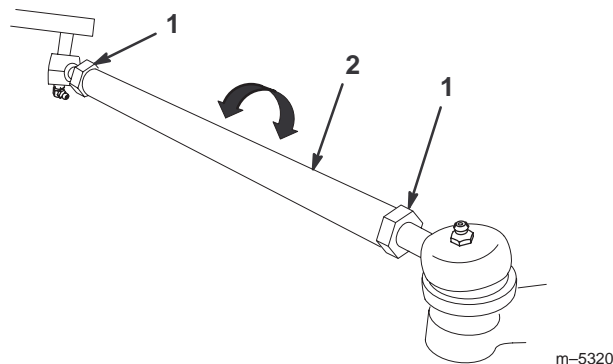

Figure 28
3. If the measurement does not fall within the specified range (refer to the dimensions and parameters at the beginning of this procedure), loosen the jam nuts at both ends of the tie rods (Fig. 28).